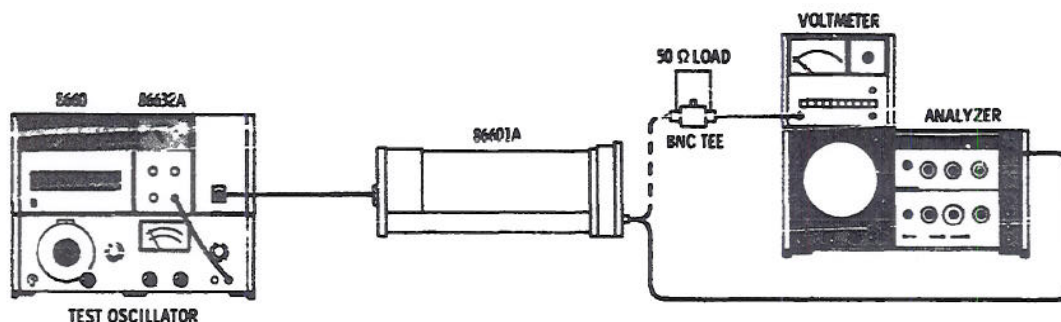

Figure 5-1. RF Output Meter Calibration Setup
**REFERENCE:** Service Sheet 3 and Figures 5-1 and 8-21 of this Manual Changes supplement.